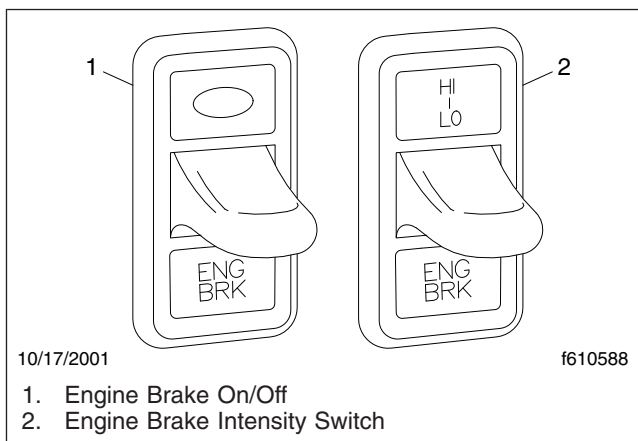

Fig. 7.21, Engine Brake Switches
- The On/Off switch (ENG BRK), is used to turn the engine brake on and off. See Fig. 7.21. When the engine brake is on, an amber light will illuminate behind the switch.
2. Press the On/Off switch to toggle the engine brake on. See Fig. 7.21. The engine brake will engage at the rate last set on the brake intensity switch.